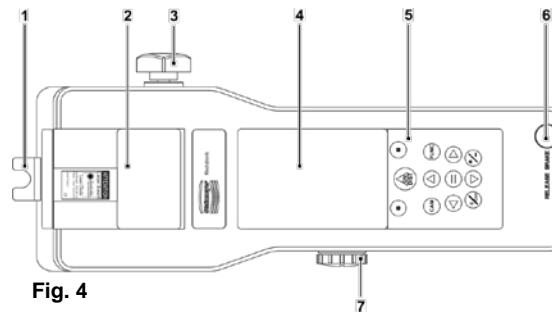

Fig. 4
The activated offset function is indicated with a symbol on the display (4, Fig. 4):
- Set the triangular grip (3, Fig. 4) on the FM5-BT to HEIGHT. Switch on the FM5-BT via the ON/DIST button (2, Fig. 5). The laser beam emerges vertically from the FM5-BT.
- Read off the catenary stagger on the measuring bar scale at the measuring mark (1, Fig. 4).
- Set the triangular grip (3, Fig. 4) on the FM5-BT to SIDE. The laser beam emerges horizontally from the FM5-BT. Now measure the distance to the laser beam reflector.
- Set the triangular grip (3, Fig. 4) on the FM5-BT to SIDE. The laser beam emerges horizontally from the FM5-BT.
- Unscrew and remove the protective cap (7, Fig. 4) on the FM5-BT and slide the protective lid that is behind it to the right.